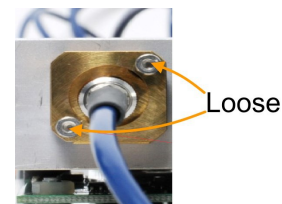

Figure 50:
- loosen the fixation screws for the fiber (see Figure 50: )
- if the fiber is correctly adjusted, you can fix the X,Y and Z adjustment screw (see Figure 71: optocoupler position and Figure 50:)